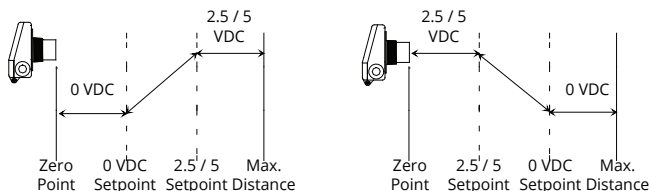

Figure 3.9
*0 VDC Set Point* sets the distance at which the output is 0 VDC. This is measured from the Zero Point. (See Figures 3.9 and 3.10)
*5 VDC Set Point* and *2.5 VDC Set Point* set the distance at which the output is high voltage (2.5 or 5 VDC). This is measured from the Zero Point (See Figures 3.9 and 3.10). Use the *Max Voltage* parameter to select the high voltage output.
For Distance configuration (i.e., greater VDC output for target surface further from sensor), set the *0 VDC Set Point* to be less than the *2.5/5 VDC Set Point*. (See Figure 3.9)
For Fill configuration (i.e., greater VDC output for target surface closer to sensor), set the *0 VDC Set Point* to be greater than the *2.5/5 VDC Set Point*. (See Figure 3.9)